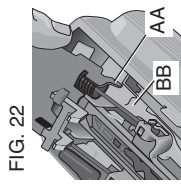

FIG. 22
3. Engage the hooks (AA) on the return cord assembly to the notch (BB) in the metal structure then push down to snap into detents (Fig. 22).
4. Slide the driver/return assembly (R) toward the nose-piece and hold.